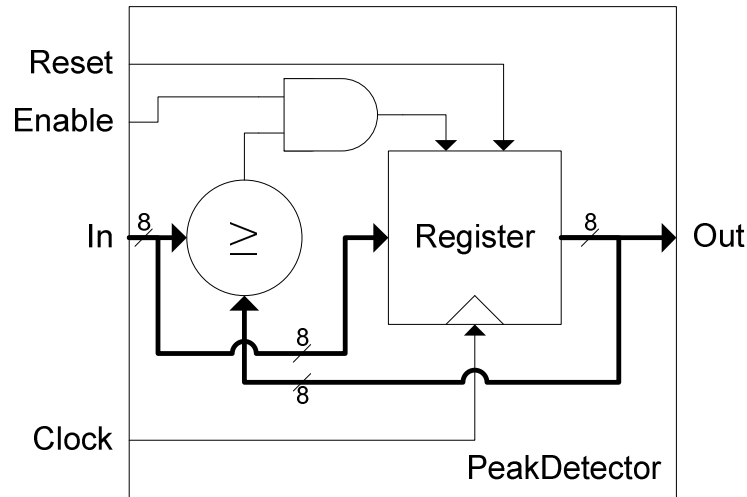

Figure 4: The Peak Detector
- 5. In the text editor of your choice (we recommend notepad) create a file called **PeakDetector.v** in which you will define a single modules called PeakDetector. Refer to Figure 4 for more information.